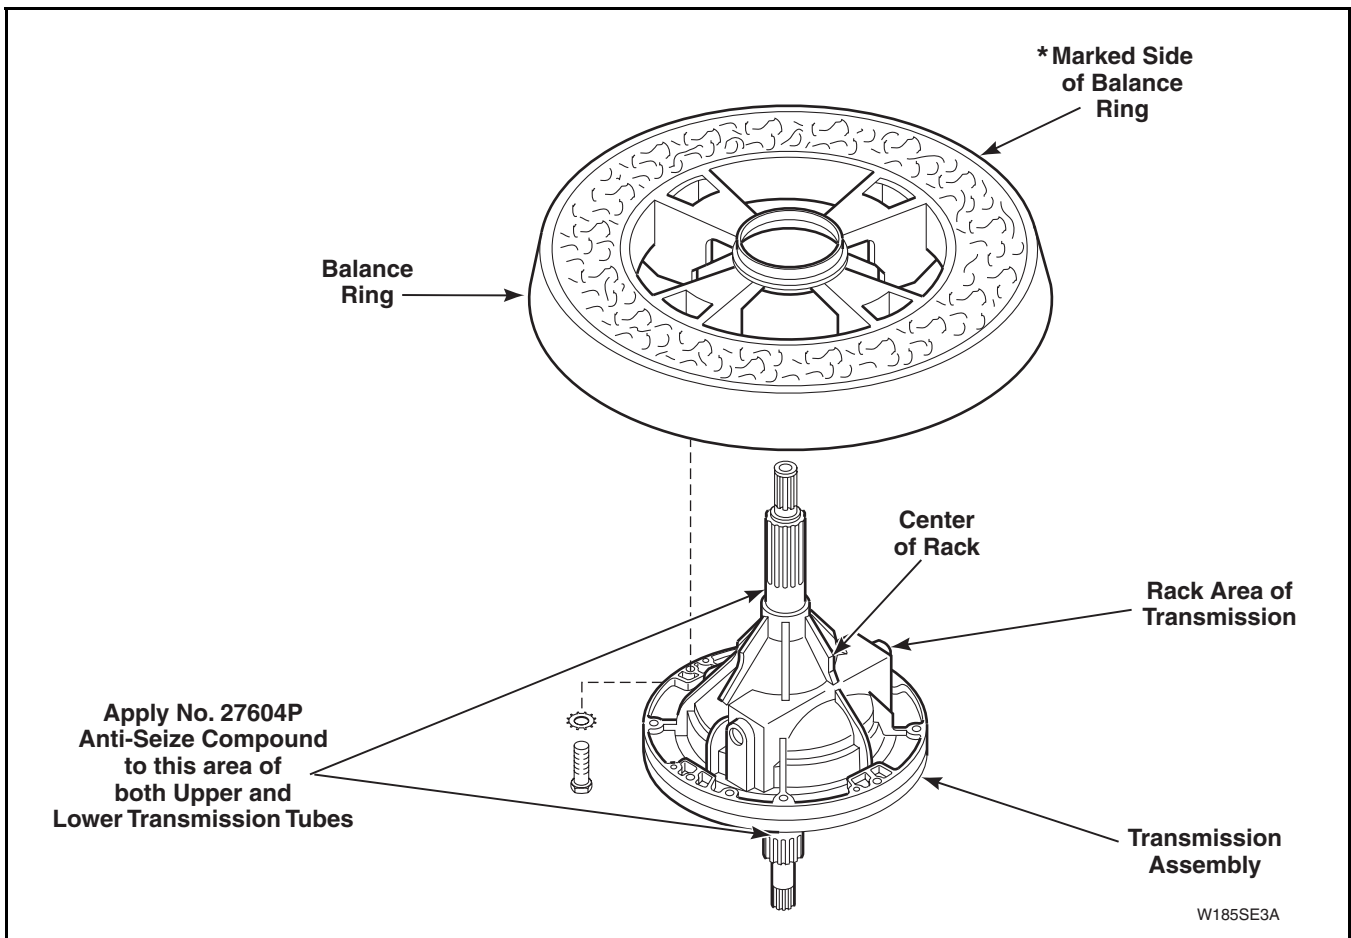

Figure 43
IMPORTANT: When installing lower bearing housing, apply No. 27604P Anti-Seize Compound to the area of transmission tube that will be contacting bearing. Refer to Figure 43.
IMPORTANT: When installing lower bearing housing, pivot dome and brake assembly, apply No. 27604P Anti-Seize Compound to area of transmission tube that will be contacting bearing. Refer to *Figure 43*.
- w. Remove four screws and lockwashers holding transmission assembly to balance ring. Refer to *Figure 43*, then lift transmission assembly straight up and out of balance ring and upper bearing.
IMPORTANT: When replacing or reinstalling transmission assembly, it is important that No. 27604P Anti-Seize Compound be applied to area of the transmission tubes where they will be contacting upper and lower bearings. Refer to *Figure 43*.
When reinstalling transmission assembly, note, if there is a mark located on outer edge of balance ring, this mark (if present) indicates light side of ring. This light side must be installed at a 9 o'clock position with center of rack at 12 o'clock when viewed from top of transmission. Refer to *Figure 43*. Carefully lower transmission through balance ring and upper bearing. **DO NOT DROP OR LOWER TRANSMISSION ASSEMBLY INTO POSITION TOO HARD**, this can cause bearing to move within bearing housing which will cause vibration, noise, wear or no spin.
q. Apply Anti-Seize Compound, No. 27604P, to smooth area of both transmission tubes that will be contacting upper and lower bearings. Refer to *Figure 43*.
IMPORTANT: When reinstalling balance ring, note, if there is a mark located on outer edge of balance ring, this mark (if present) indicates light side of ring. This light side must be installed at a 9 o'clock position with center of rack at 12 o'clock when viewed from top of transmission. Refer to *Figure 43*.
NOTE: If there is no mark on balance ring before disassembly, mark it and also note the position of rack on transmission assembly. Refer to *Figure 43*.